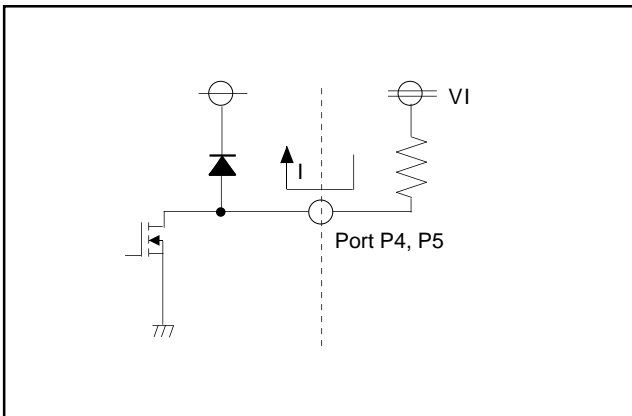

Fig. 55 Notes on use of ports P4 and P5
- 4 : When applying a voltage through a resistor as shown in the figure 55, V_I > V_{CC} may be accepted if the current is 1 mA or less.